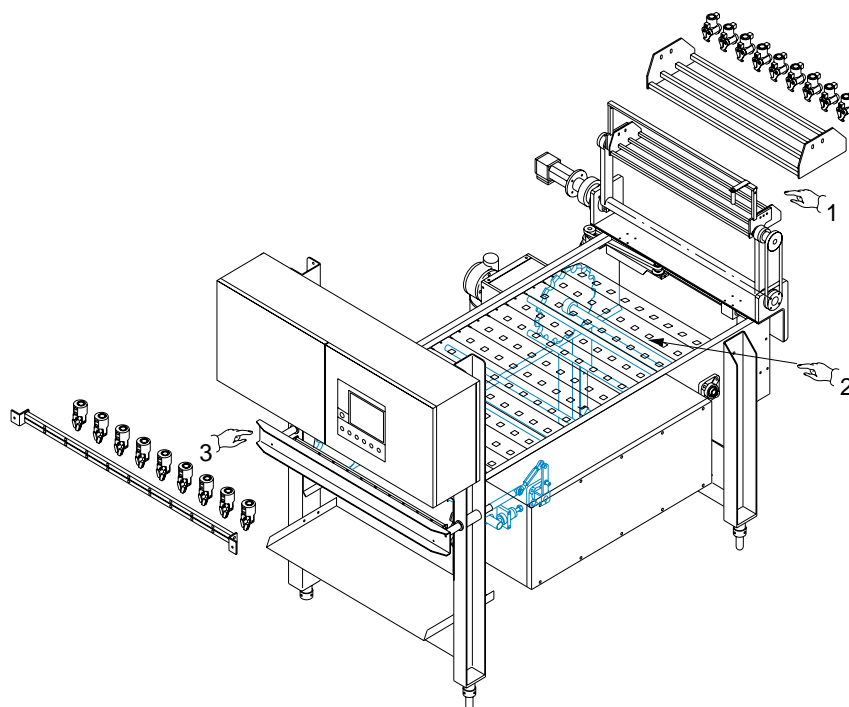

Fig. 5.3
- Replace the pick-up gripper holder support (*Pos. 1, Fig. 5.3*).
- Replace the release gripper holder support (*Pos. 3, Fig. 5.3*).
- Replace the rollers (*Pos. 2, Fig. 5.3*).